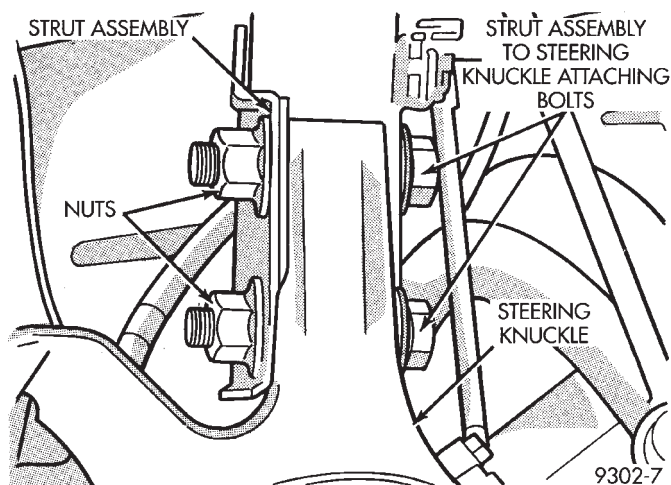

**Fig. 26 Strut To Steering Knuckle Attaching Bolts**
(12) Remove the strut assembly to steering knuckle attaching bolts (Fig. 26).
(2) Position steering knuckle into strut assembly.
(3) Install the strut assembly to steering knuckle attaching bolts (Fig. 26). Install nuts on attaching bolts (Fig. 26). Tighten the strut clevis to steering knuckle attaching bolt nuts to a torque of 203 N·m (150 ft. lbs.).